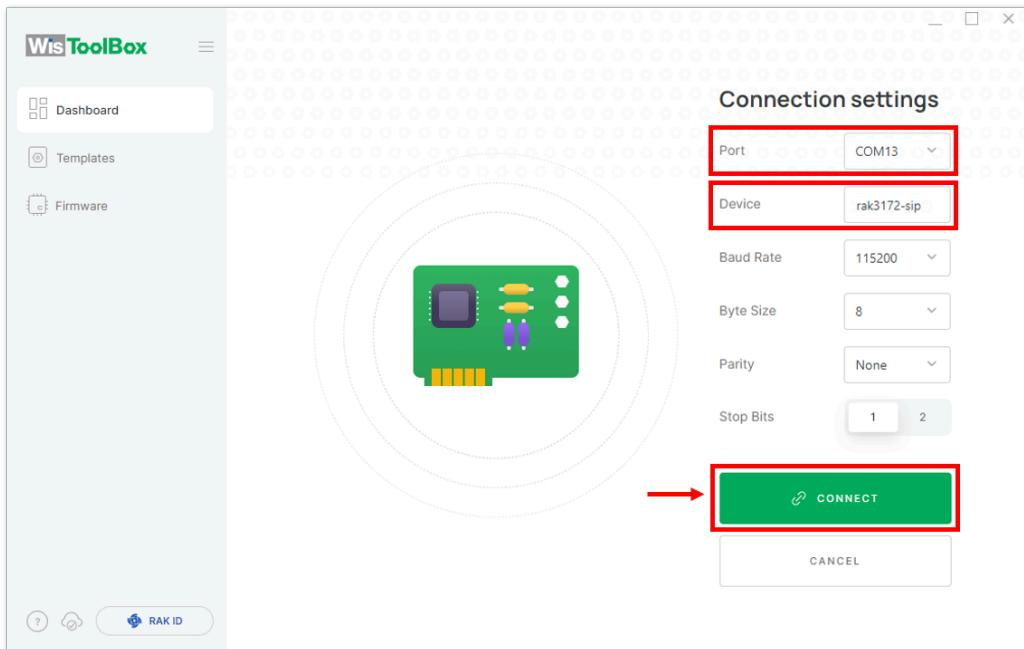

Figure 74: Setting up your device
3. Then select your target port where your **RAK3172-SiP** is connected. Once recognized, click **CONNECT** as shown in **Figure 74**.